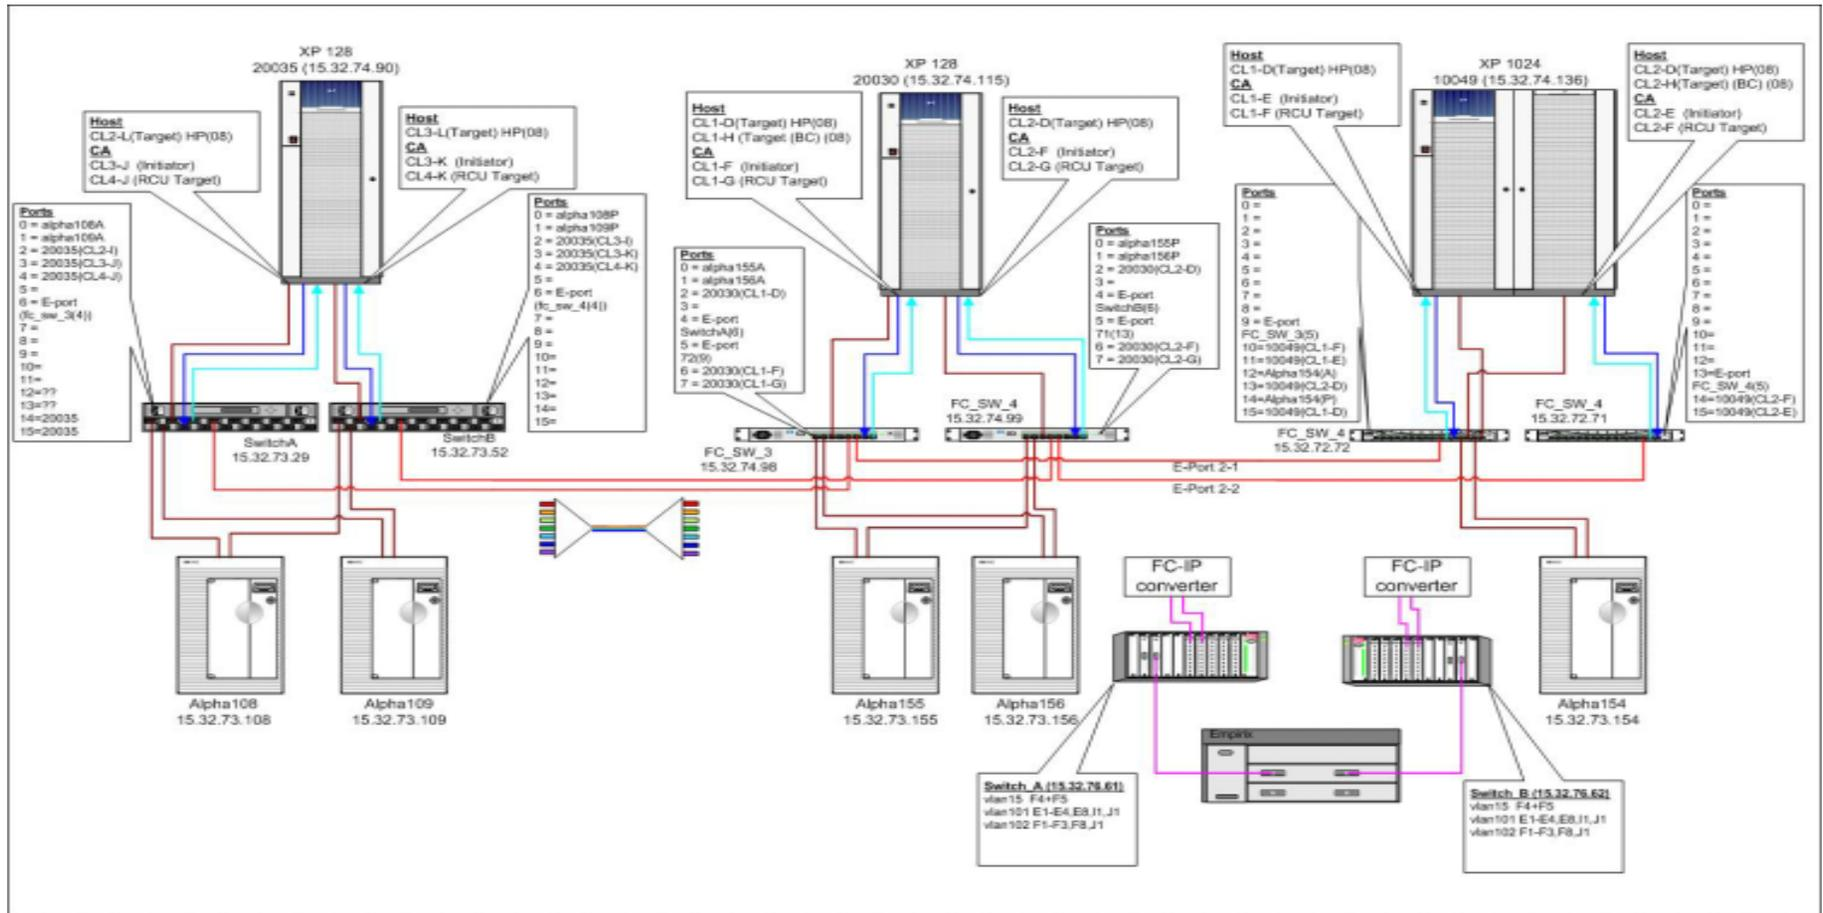

Figure 3: Detailed configuration diagram
- Figure 3: Detailed configuration diagram 13
The goal of the process is to produce a customer-specific configuration diagram similar to Figure 3, and then implement that configuration.